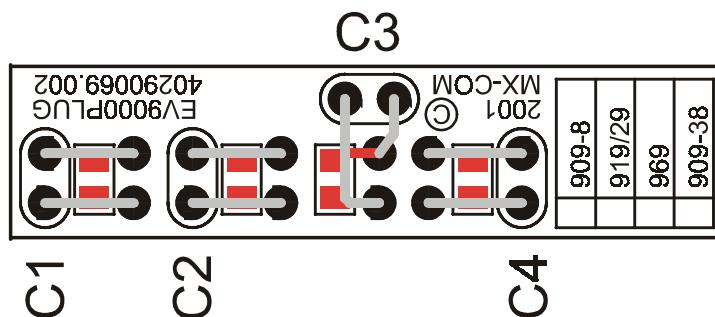

Figure 2: Blank Plug-In Personality Board
5. Older personality boards had identification tags marked "A", "B", etc. The latest personality boards have a mark placed against the device type with which they are to be used (eg. "909-38" for a CMX909B operating at 38.4kb/s, etc). The layout of the latest blank personality board is shown in Figure 2: when configured for a particular device, surface mount capacitors are soldered to the appropriate locations and the board is marked, as described above.
3. Select and carefully install the appropriate pair of personality plug-ins to match the selected modem according to Table 2. The layout of a blank personality board is shown in Figure 2.
Blank plug-ins are also provided and may be populated with user selected components depending upon desired baud rates and other circuit characteristics. Figure 2 shows the plug-in layout and indicates each component's function. Both through-hole and surface mount pads are provided in each component location. For an explanation of how to make component selections, refer to the relevant modem data sheets.